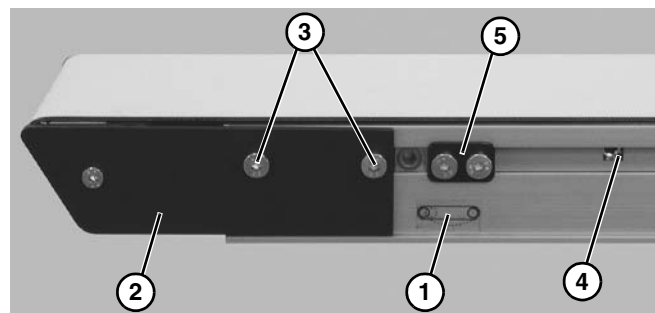

**Figure 22**
3. After adjusting proper tensioning, tighten fastening screws (**Figure 22, item 1**) on both sides of conveyor to 60 in-lb (7 Nm).
4. If equipped with cam tracking assemblies (**Figure 22, item 2**), position against head plates and adjust belt tracking. Refer to "Conveyor Belt Tracking" on page 13.